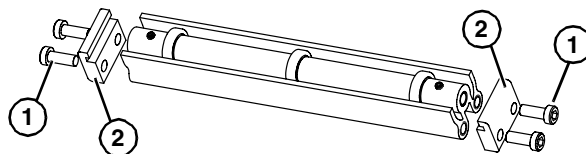

Figure 11
1. Locate return rollers. Exploded view shown in **Figure 11**.
2. Remove screws (**Figure 11, item 1**) and clips (**Figure 11, item 2**) from roller assembly.